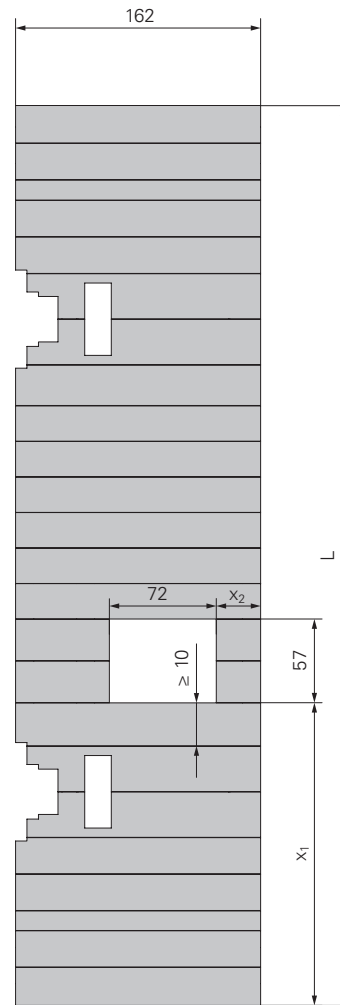

Fig. B5.09
For Climbing Shoe II ACS according to Fig. B5.09 + B5.10.
For Climbing Shoe-2 I ACS according to Fig. B5.09 + B5.11.
7. Fit the hatch (280), see "Fitting the descent hatch" on page 60. (Fig. B5.09)